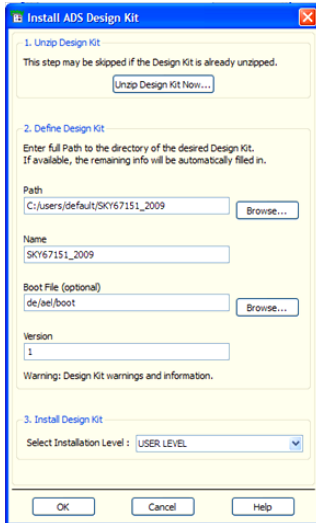

Figure 9. Archived Model Path Setup
- 3) Locate the SKY67151_2009.zip at the project location and click Unzip Design Kit Now. After it unzips the folder, it will automatically fill the rest required paths, Figure 9. Click OK to proceed.